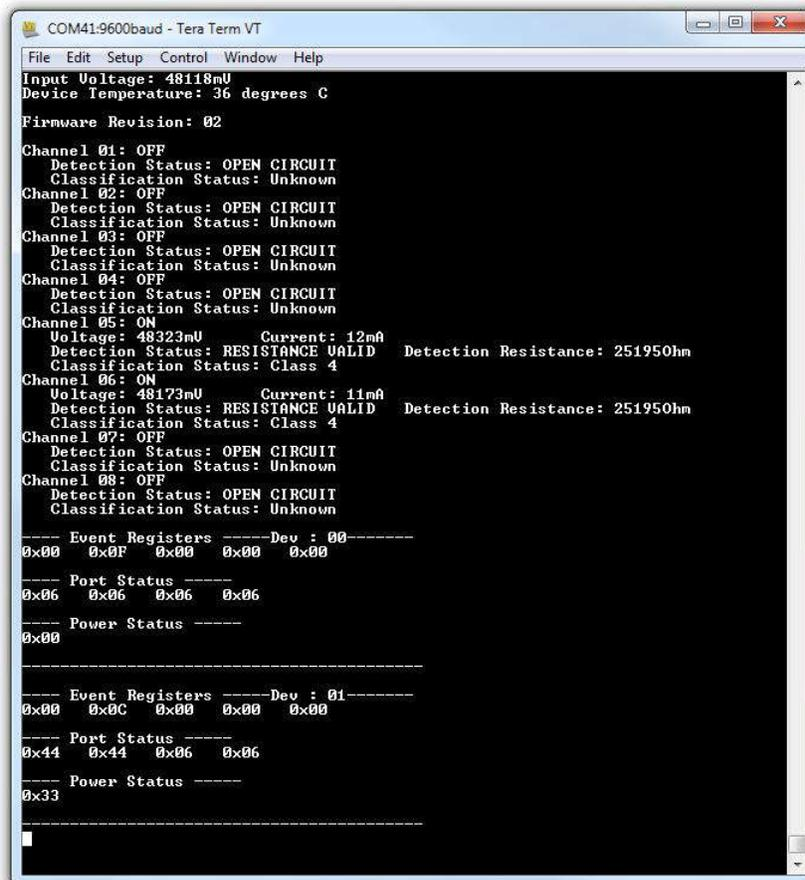

Figure 3-7. Terminal Response With Connected Ports
10. The TPS23881B1EVM is now waiting for a PD load to be installed. As ports are installed, the system automatically detects, classifies, and powers up the port as shown in Figure 3-7. Port status is updated on the screen approximately every 10 seconds.